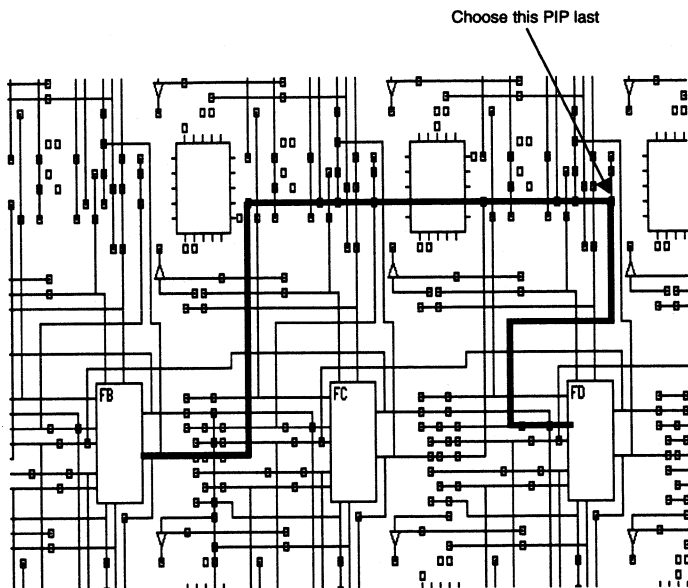

Figure 9-24 Manual Routing — Step 4
11. Finally, click on the PIP on the highlighted wire directly to the right of switch matrix pin 9, as indicated by Figure 9-24.
The net is now routed. Figure 9-24 shows the complete routing path for net10.